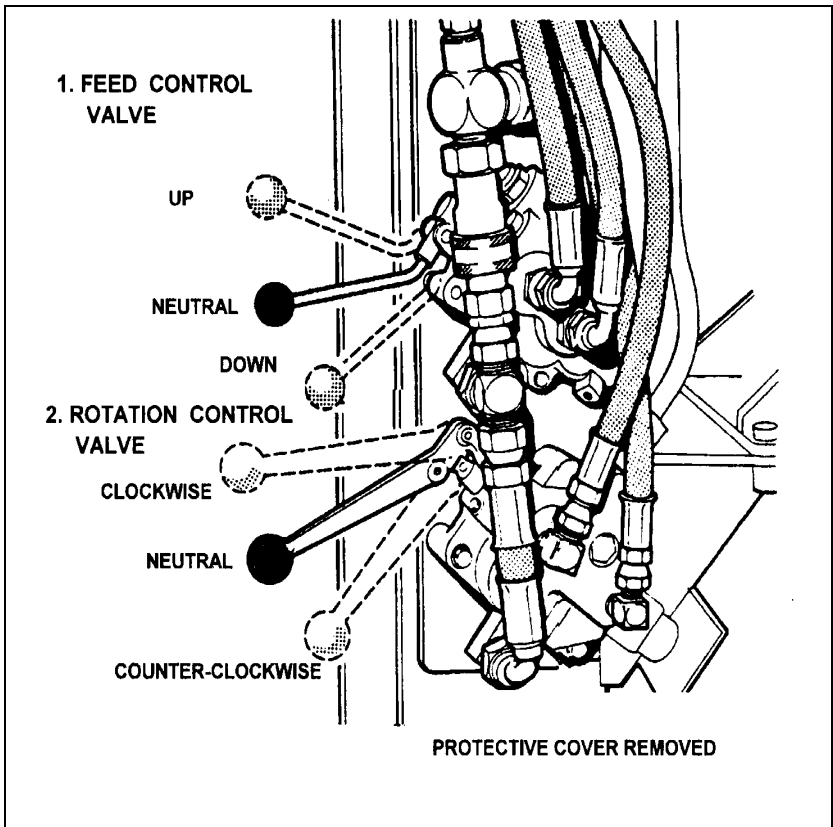

Fig 6-2-13 M113a APC Hydraulic Control Levers and Functions
- c. check that the auger rotation and feed controls (Fig 6-2-13) are in **NEUTRAL**;
- b. change the auger/tool selector valve (Fig 6-2-13) to the auger position (out);
- e. lower the cutting head to the ground surface by moving the feed control valve lever down, then return it to the neutral (centre) position (Fig 6-2-13);